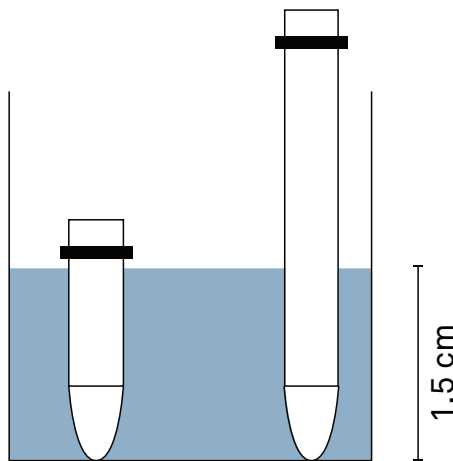

Figure 14 Saturate ceramic tips
- Place the ceramic tips of the tensiometer shafts in deionized water overnight (Figure 14). Be sure that no water can enter the shaft from the open end. Otherwise air will be locked in the pores of the ceramic tip.